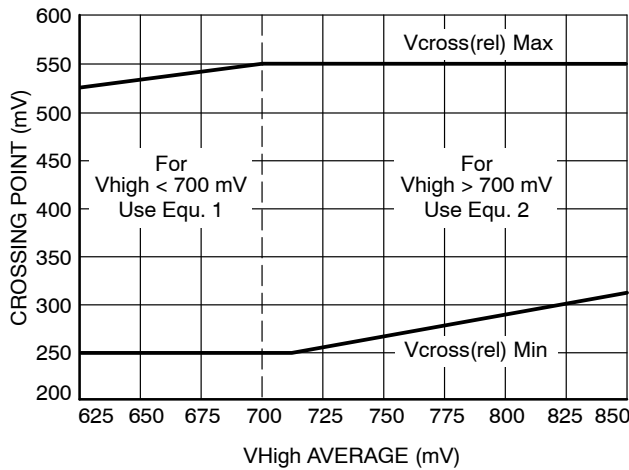

Figure 7. Vcross Range Clarification
29. Vcross(rel) Min and Max are derived using the following, Vcross(rel) Min = 0.250 + 0.5 (Vhavg – 0.700), Vcross(rel) Max = 0.550 – 0.5 (0.700 – Vhavg), (see Figure 7).